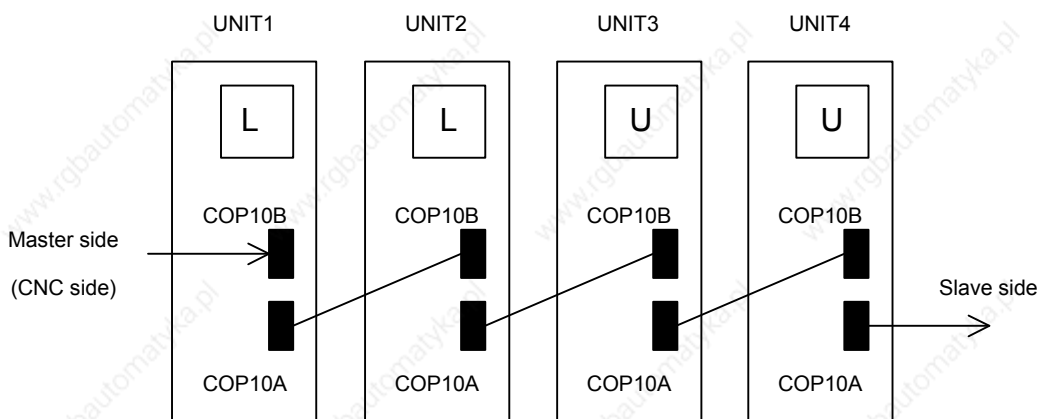

Fig. 3.2.12
- (2) Cause and troubleshooting
- (a) Replace the Servo Amplifier optical cable (COP10B) that is nearest to the CNC on which "U" is displayed (in Fig. 3.2.12, the cable between UNIT2 and UNIT3).
- (b) Replace the Servo Amplifier that is nearest to the CNC on which "U" is displayed (in Fig. 3.2.12, UNIT3).
- (c) Replace the COP10B-side Servo Amplifier that is nearest to the CNC on which "U" is displayed (in Fig. 3.2.12, UNIT2).